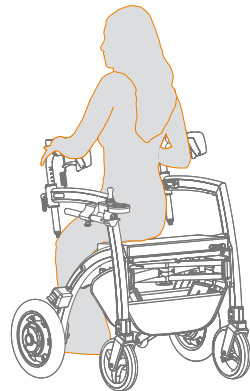

Figure 30: Sitting on the rollator seat.
- b. Sit down on the rollator seat from the rear (**Figure 30**). Always ensure that the Rollz Motion Electric walker is in the parking position.